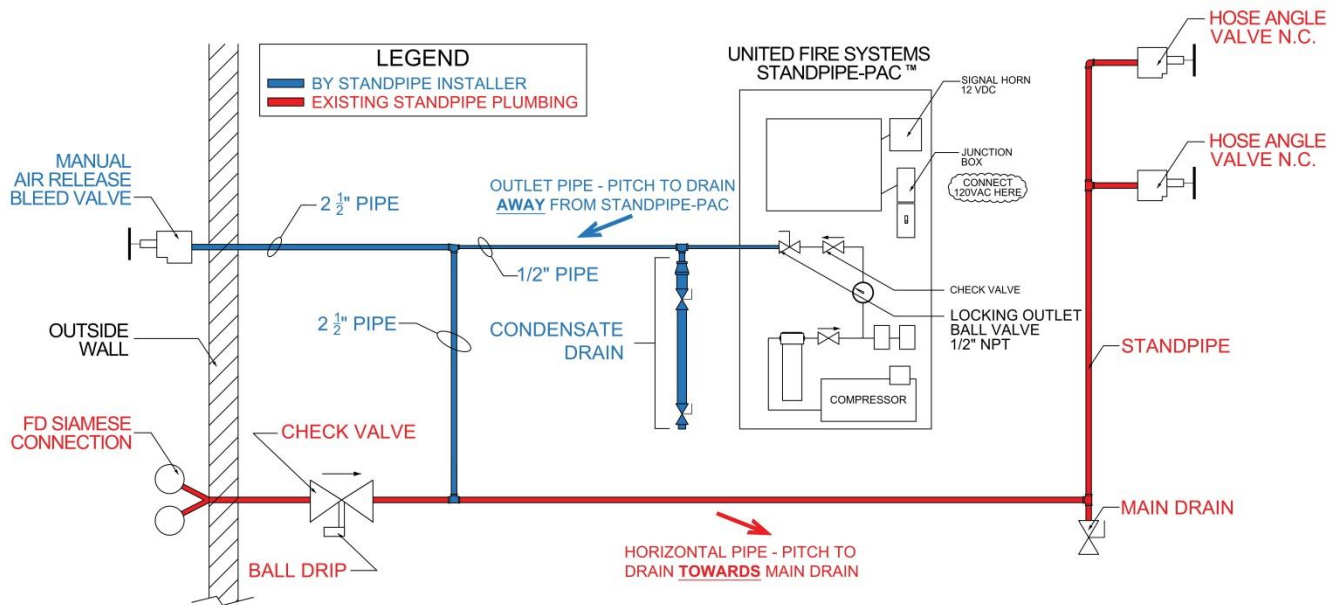
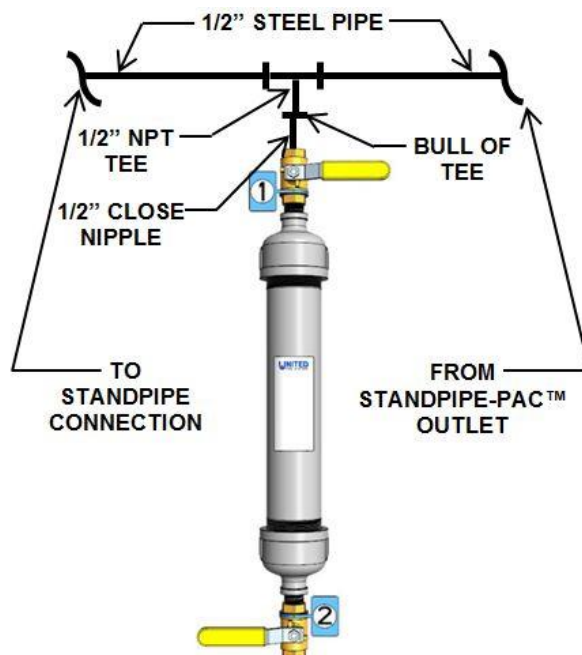

Figure 9 – **STANDPIPE-PAC™** Installation
Figure 10 – Auxiliary Condensate Drain Device
3.3.2. Piping. See Figure 9. The piping in **BLUE** is to be installed by the **STANDPIPE-PAC™** system installer. Use Sch. 40 black pipe and Class 150 fittings. The tee to connect the **STANDPIPE-PAC™** shall be located after the check valve, and should be located before the drain valve. Connect 1/2" pipe to point labeled **OUTLET** on **STANDPIPE-PAC™** unit. Ensure that the standpipe is **NOT PRESSURIZED** prior to cutting in the tee at the installation location.
Dry standpipes installed with supervisory systems shall be installed per Figure 9 above. The diagram indicates several important facts:
3. Install the Auxiliary Condensate Drain Device where shown on Figure 10, per 3.3.4.
- c. The device MUST be installed vertically – see Figure 9 and Figure 10.
3. See Figure 10. Attach a ½ inch close pipe nipple and the bull of a ½ inch pipe tee to device inlet. (Valve 1)
5. See Figure 10. Connect ½ inch pipe to the remaining run of the tee attached to the device and the inlet to the dry standpipe. Pitch the pipe to drain away from the device.